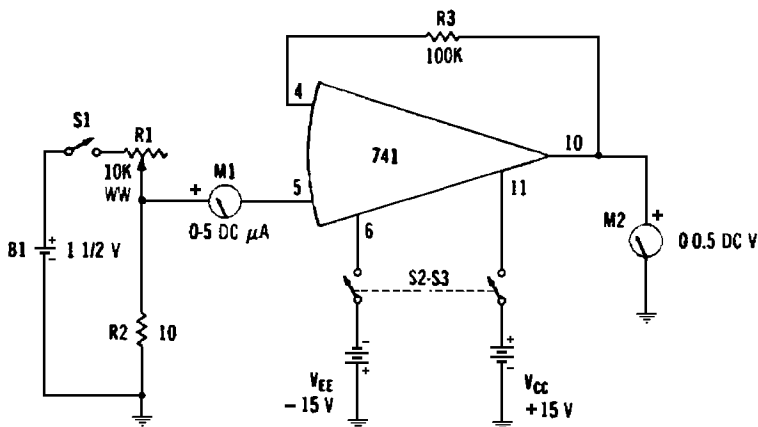

Fig. 2-10. Input offset current.
### Required Equipment (Fig. 2-10)
1. With switches S1 and S2-S3 open and with potentiometer R1 set to maximum resistance, set up the test circuit of Fig. 2-10.